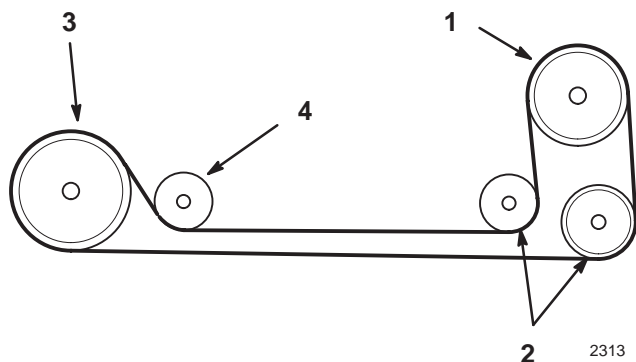

Figure 32
5. Route belt around and mid-mount idler pulleys, below frame and behind right rear tire (Fig. 32).
6. Pull on idler arm spring to relieve tension and route belt around tiller drive pulley, under tiller idler and inside belt guide (Fig. 32).
7. Check that belt is properly routed around all pulleys and belt guide (Fig. 32).